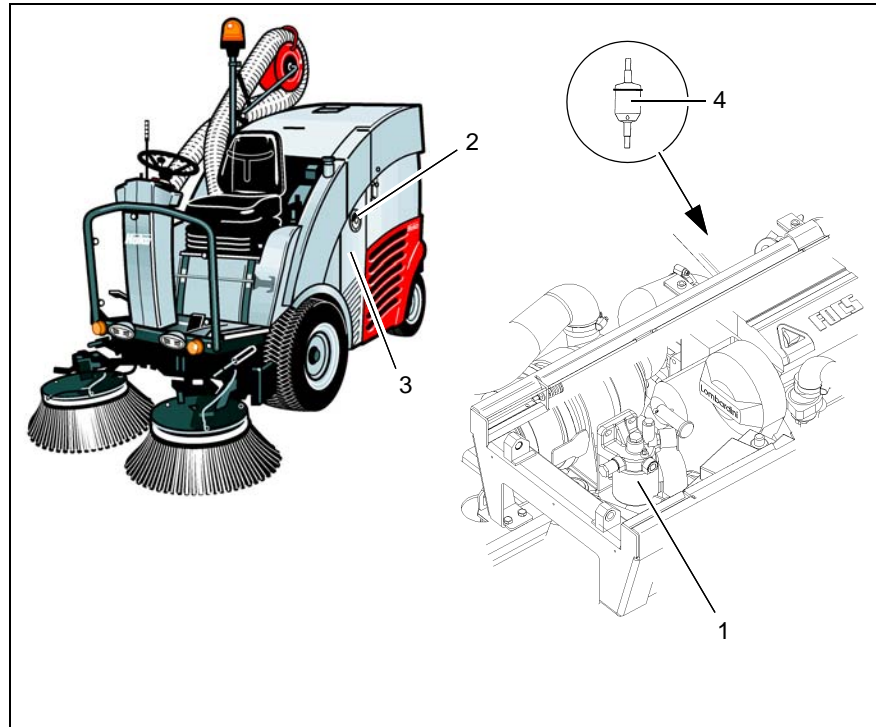

Fig.17
2. Remove the cap (Fig. 17/2) and fill the fuel tank (Fig. 17/3). Check the fill level when doing so. Tank volume: 20 liters.
2. Unscrew the fuel filter cartridge (Fig. 17/1).
3. Remove the preliminary filter (Fig. 17/4).